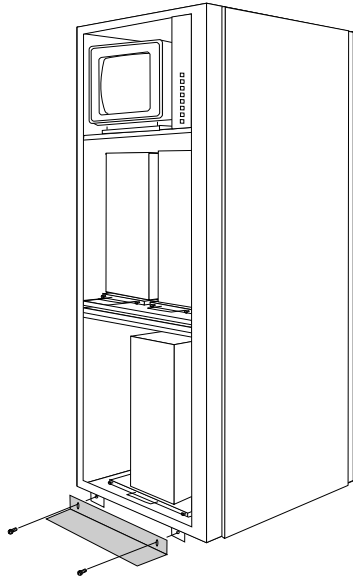

Figure 5. Installing the stabilizer bar
6. Refer to Figure 5 and bolt the stabilizer bar to the front of the PC Server Rack using the 8-inch adjustable wrench. Make sure the bar firmly touches the floor and tighten the bolts securely.